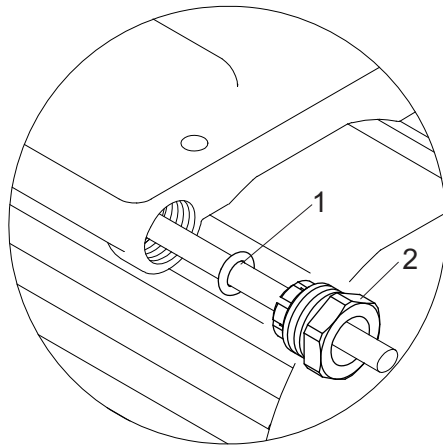

Fig. 13
To enable correct assembly of the cable gland the 'O'-ring (Fig. 13 item 1) must be placed over the cable before the clamping insert (Fig. 13 item 2) can be tightened.